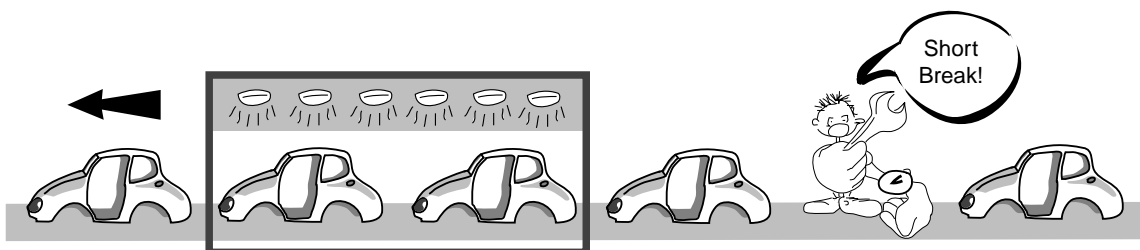

Figure 3-25: Peak Hold Example
In a car plant, body parts are moved on a conveyor belt through a hardening oven to harden the metallic paint. Normally a new body passes through every two minutes. The temperature of the oven must be kept relatively constant, if possible, even if no new parts move into the oven for short periods (for breaks or for short technical stoppages). So practically speaking, we have the following case (Figure 3-25):
In the example in Figure 3-25: No new car bodies enter.
In the example in Figure 3-25: the conveyor belt temperature is below the bottom of the temperature range. For example, 475°C for FA1A.
- Set HOLD TRIGGER TEMPERATURE high enough that all "irrelevant" input values are suppressed. In the example in Figure 3-25 the bodywork parts have a higher temperature than the moving conveyor belt. HOLD TRIGGER TEMPERATURE was set above the conveyor belt temperature (2-way command "C").